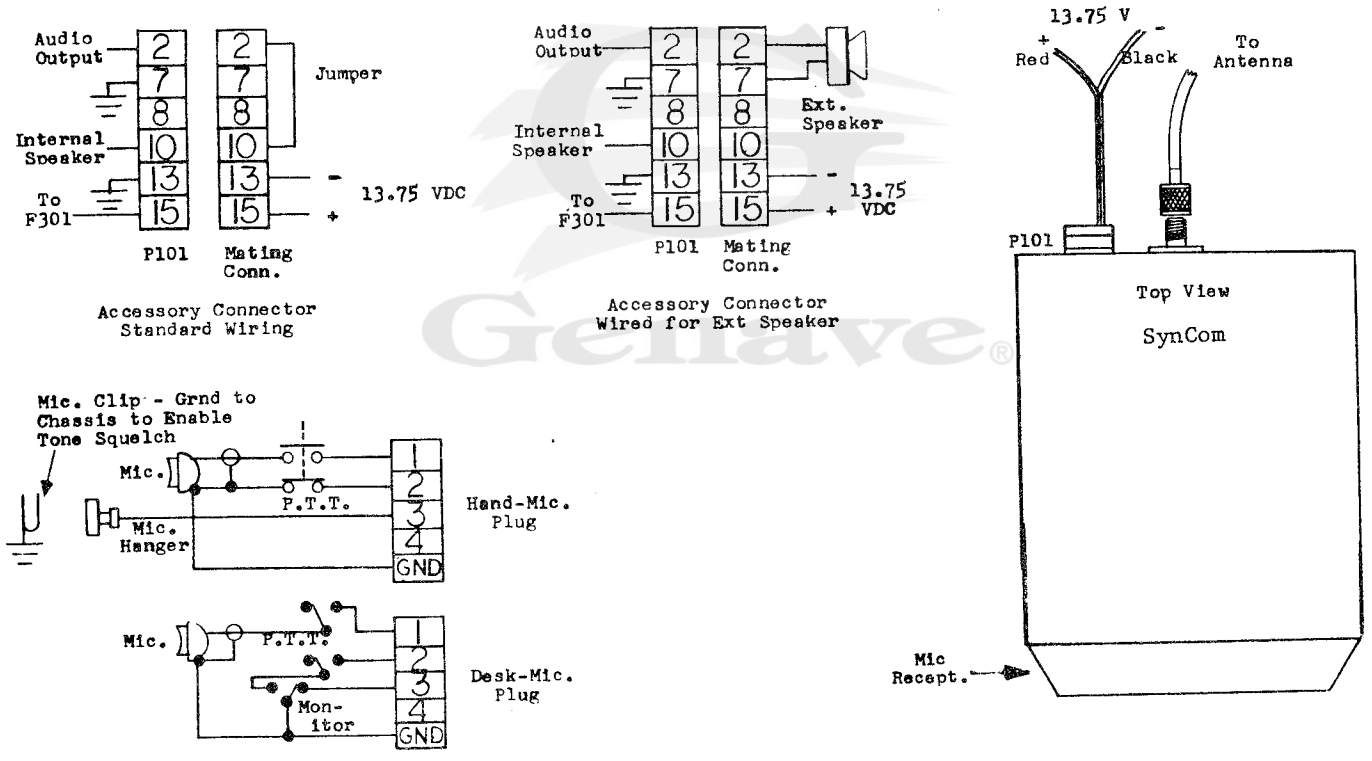

Figure 2-2. Accessory Connector & Mic. Wiring
3. The 15-pin receptacle has a jumper connected between pins 2 and 10 to activate the internal speaker in the SynCom transceiver. If an external speaker is to be used, remove the jumper and connect speaker leads between pins 2 and 7 of the 15-pin female receptacle. See Figure 2-2.
to provide a convenient method of connecting power or optional accessories to the unit. Standard wiring of the accessory connector utilizes five pins, leaving ten pins available for options or customized installation. Figure 2-2 illustrates standard wiring of the accessory connector and the microphone receptacle. The connections to the accessory connector pins are described below:
The method of grounding pin 3 is dependent upon type microphone being used: The hand microphone grounds this pin via the mic. hanger and mic. mounting clip; whereas, the desk-style microphone grounds pin 3 through contacts on the Monitor Switch. Refer to Figure 2-2.